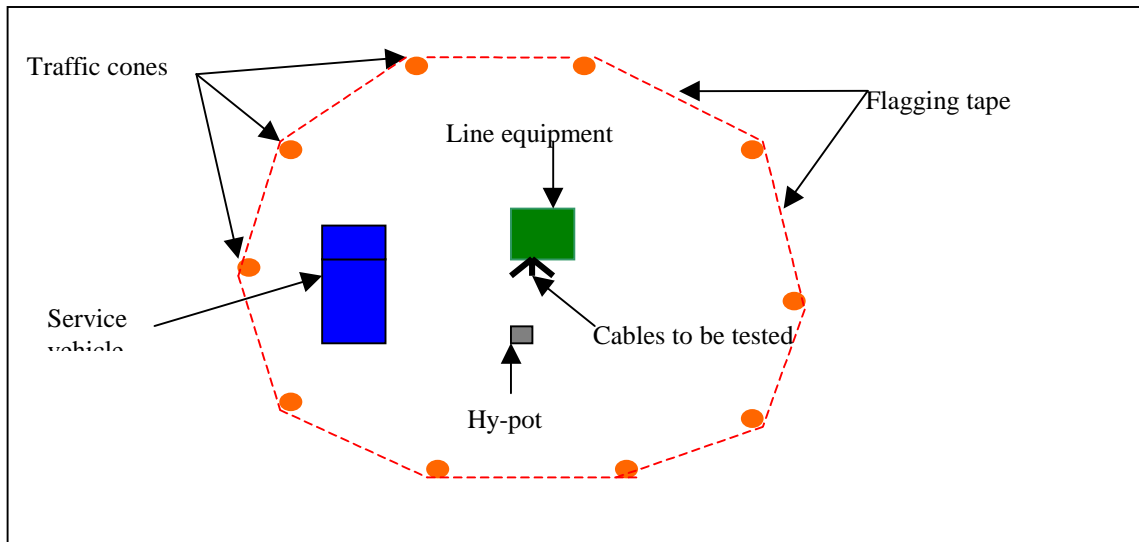

Figure 1. Typical Safety Zone.
- Vehicles may also be inside this area however they should not inhibit your movement in the safety zone or create an unsafe condition (Figure 1).